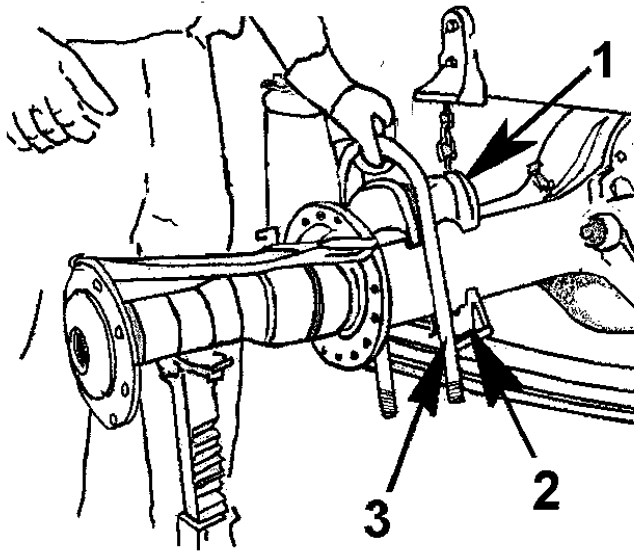

Figure 23 U-Bolt Remove
7. Remove spring U-bolts while supporting lower U-bolt plate and related parts. Remove and discard spring liner (Figure 23).
13. Place U-bolt seat on top of spring (Figure 23, Item 2) with tab towards vehicle frame then install U-bolt assembly to spring and axle. **Do not** tighten fasteners to specified values at this time.